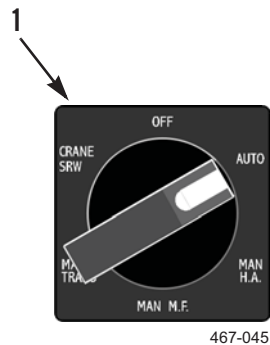

Figure 8. MODE Switch at AUTO.
1. With engine at idling speed, set MODE switch (Figure 8, Item 1) to AUTO (PLS: TM 9-2320-364-14&P, HEMTT: TM 9-2320-326-14&P).